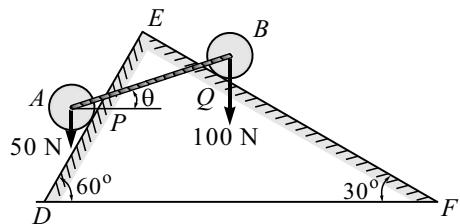

Fig. 3.E24
25. A vertical post *PQ* of a crane is pivoted at *P* and supported by a guide *Q*. Find the reactions at *P* and *Q* due to the loads acting, as shown in Fig. 3.E25.